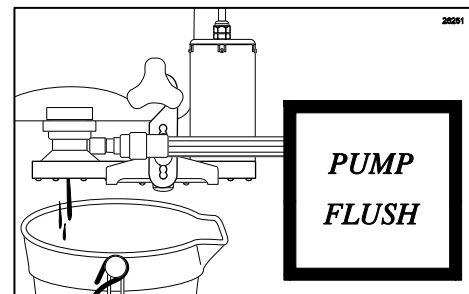

Figure 78
2. Place a container under the Injector Head to catch sanitizer solution and/or fresh product to be dispensed and press **PUMP FLUSH** to prime the syrup line. (See Figure 78.)